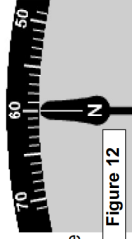

Figure 12
8. Read azimuth where the "N" end of the needle points at graduated circle – 60°. (Fig 12)